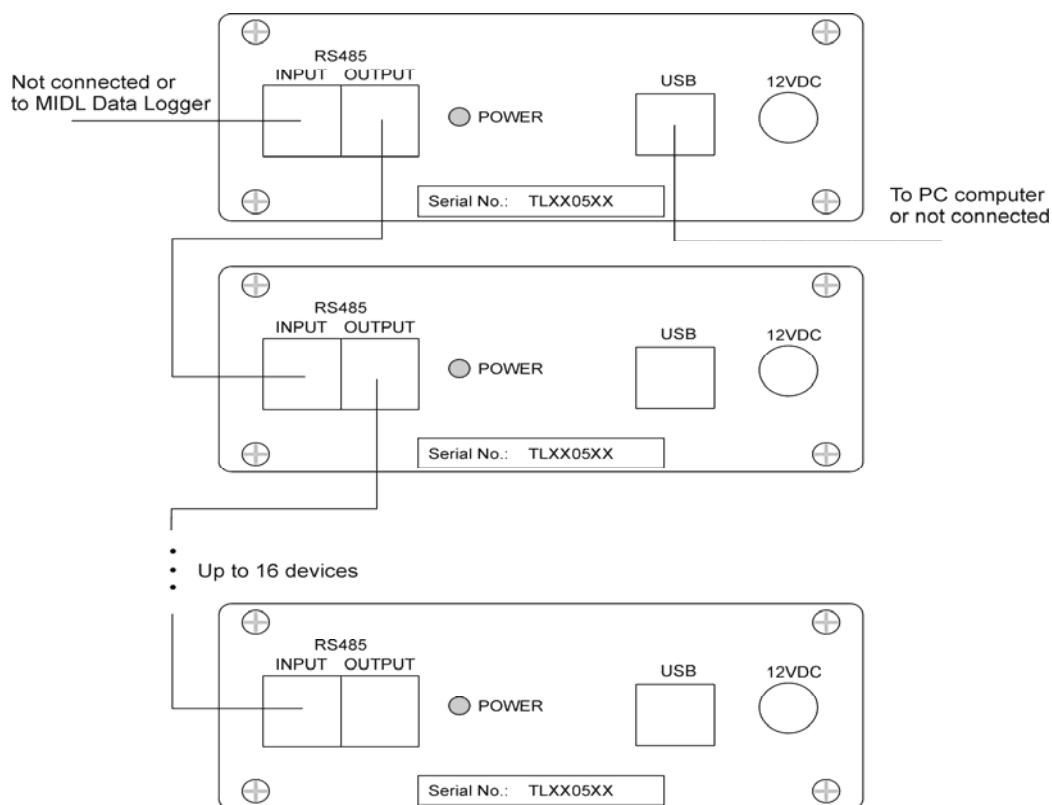

Fig. 17. Connection of multiple TDR/MUX/mpts devices in a chain to control the measurement experiment with up to 128 TDR probes (LP/ms and/or FP)
- RJ12 socket for serial RS485 INPUT and OUTPUT to connect up to 16 TDR/MUX/mpts devices in a chain (Fig. 17) or MIDL Data Logger.